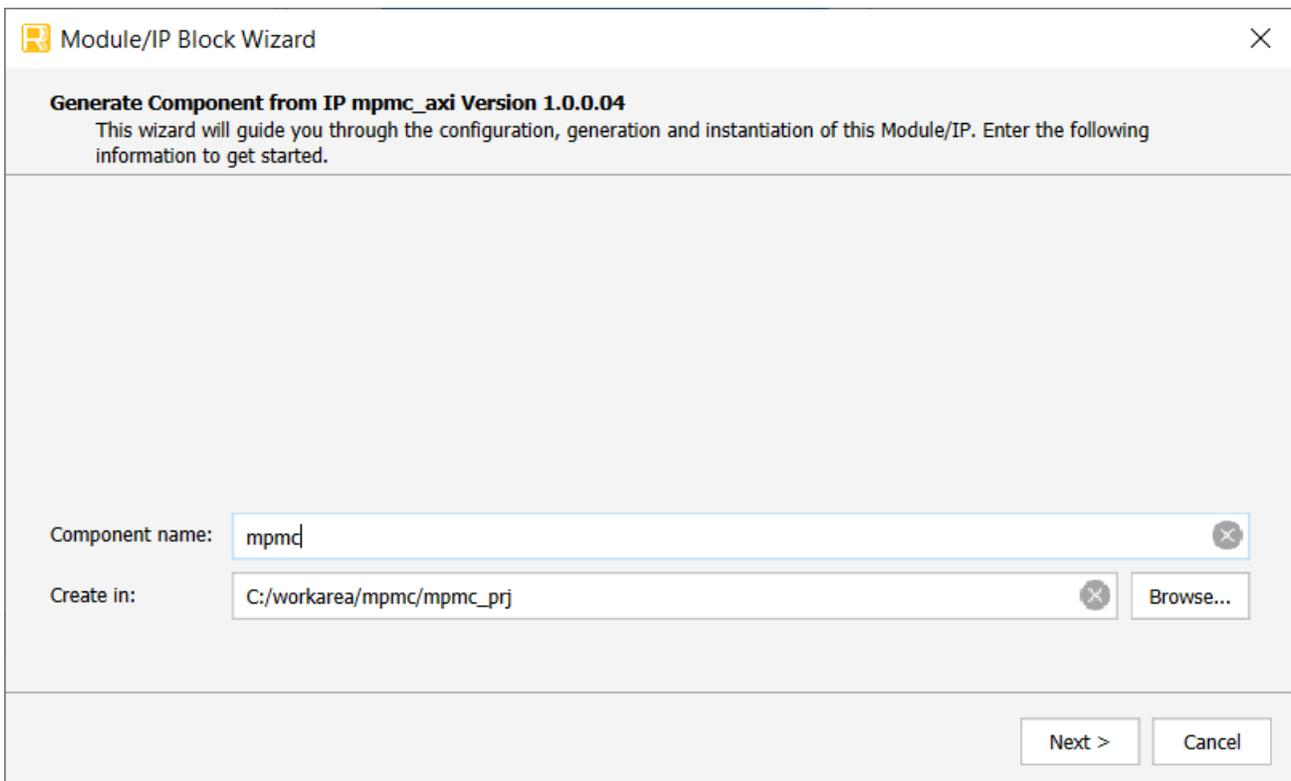

Figure 6.5. Module/IP Block Wizard
2. In the **IP Catalog** tab, double-click **AXI4 MPMC** under **IP, Processors_Controllers_and_Peripherals** category. The **Module/IP Block Wizard** opens as shown in Figure 6.5. Enter values in the **Component name** and the **Create in** fields and click **Next**.
- Click **Finish**. All the generated files are placed under the directory paths in the **Create in** and the **Component name** fields shown in Figure 6.5.